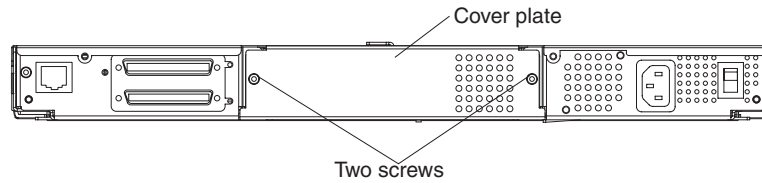

Figure 20. Removing the tape drive cover plate
4. Using a #1 Phillips screwdriver, remove the two screws that secure the cover plate (see Figure 20 on page 49). Set the cover plate and screws aside.